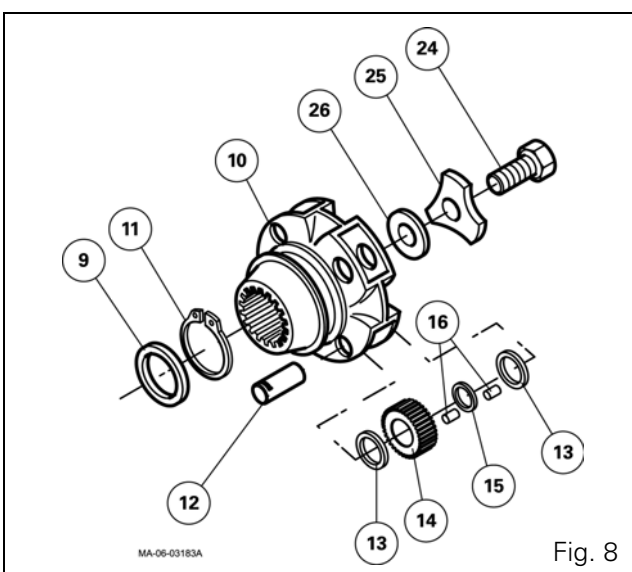

Fig. 8
36. Remove screw (24).
37. Take off the lock washer (25) and the shim(s) (26) (Fig. 8).
38. Remove the planet carrier (10).
39. Open the snap ring (11).
40. With a hammer, lightly tap on the three pins (12).
41. Take out the three pins (12) and the snap ring (11).
42. Remove the three pinion gears (14), needles (16), spacers (15) and shims (13).
43. Clean the planet carrier (10), the pins (12) and the pinion gears (14). Check the components.
44. Smear the needles with miscible grease. On each pinion gear, place two rows of needles (16) separated by a spacer (15) (Fig. 8).